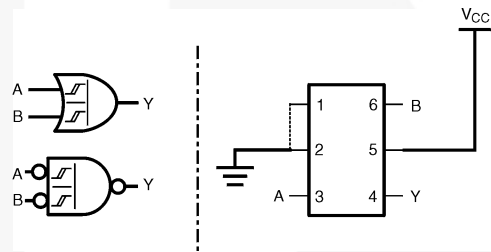

Figure 12. 2-Input OR Gate
4. C_{PD} is defined as the value of the internal equivalent capacitance which is derived from dynamic operating current consumption (I_{CCD}) at no output loading and operating at 50% duty cycle. (See Figure 12) C_{PD} is related to I_{CCD} dynamic operating current by the expression: I_{CCD} = (C_{PD})(V_{CC})(f_{in}) + (I_{CCstatic}).